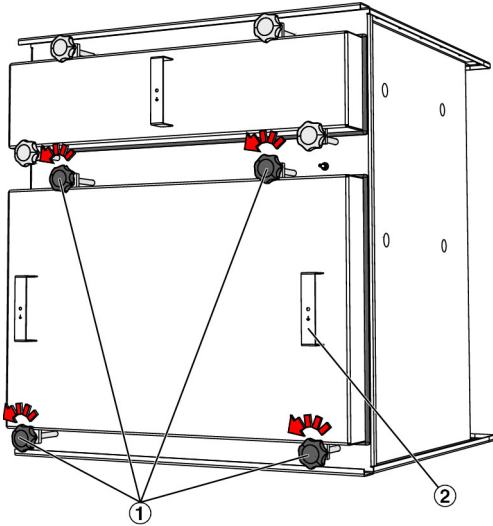

Fig. 8: Opening the cover
2. ▶ Unscrew the clamping screws (Fig. 8/1) on the cover using the star grip. Remove the cover from the casing by both handles (Fig. 8/2) and store it.
2. ▶ Open the cover, Fig. 8.